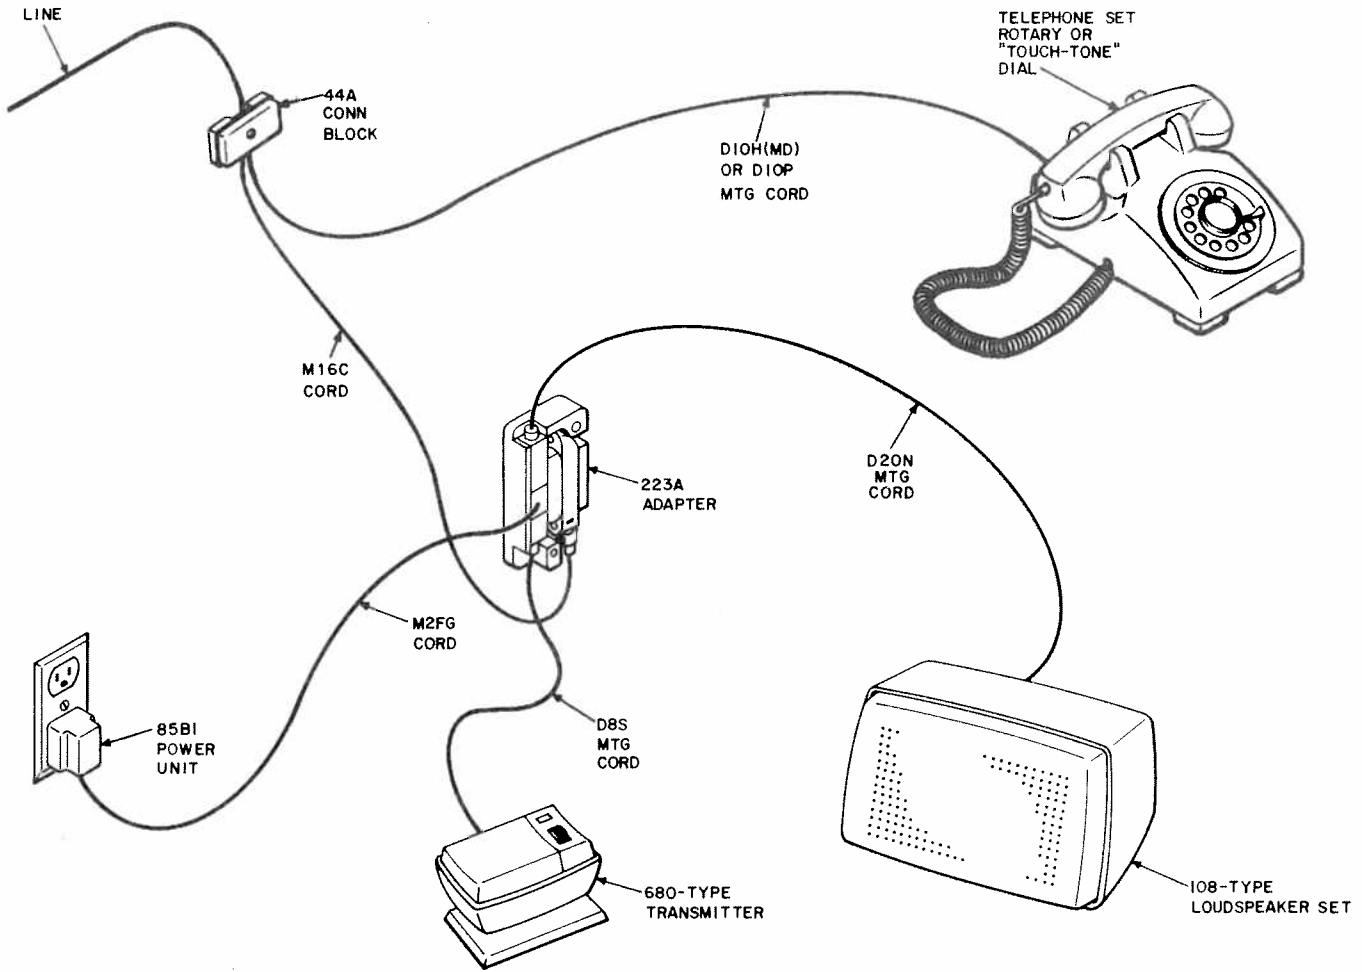

Fig. 1—Speakerphone Arrangement, 500S or 2500S Telephone Set
- 1.03 To provide 4A speakerphone feature at the 500- and 2500-type telephone sets, refer to Fig. 1 or 2 for layout arrangement of the components required for the system and Fig. 2 through 6 for individual lead connections.
- 2.04 Power can be supplied by connecting 85B1 power unit as shown in Fig. 1 through 6.